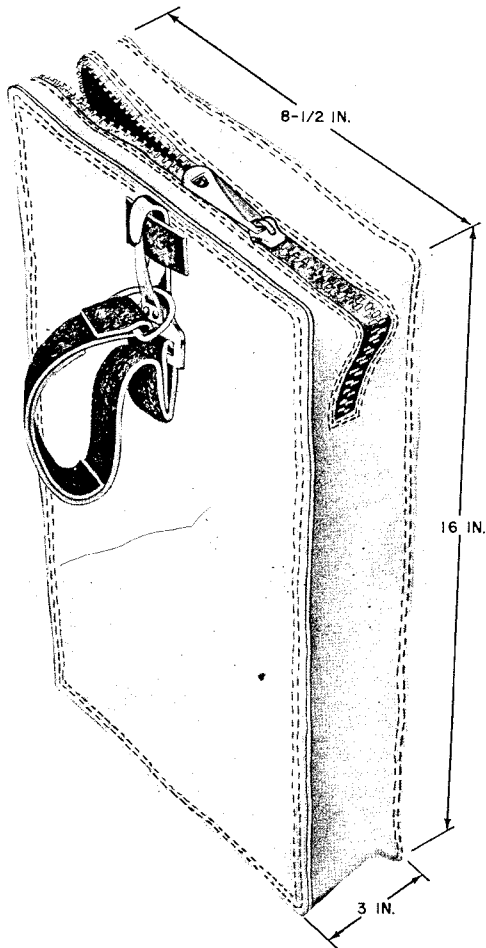

Fig. 5—B Glove Bag
3.09 The B glove bag (Fig. 5) is used to store the central office test cords.